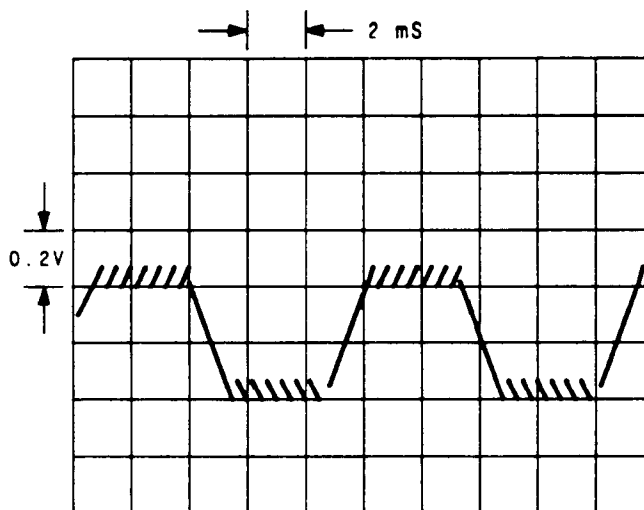

**Figure 2.** Oscilloscope display of TP3 (dc coupled), Signal Generator's frequency 950 MHz, modulation EXT FM 3 kHz deviation (100 Hz square wave).
4. Connect Chan 2 to TP3 ( $\Phi$ M INPUT). Verify that the oscilloscope display shown in Figure 2 is correct. If the waveform is not correct continue with  $\boxed{\sqrt{2}}$ .